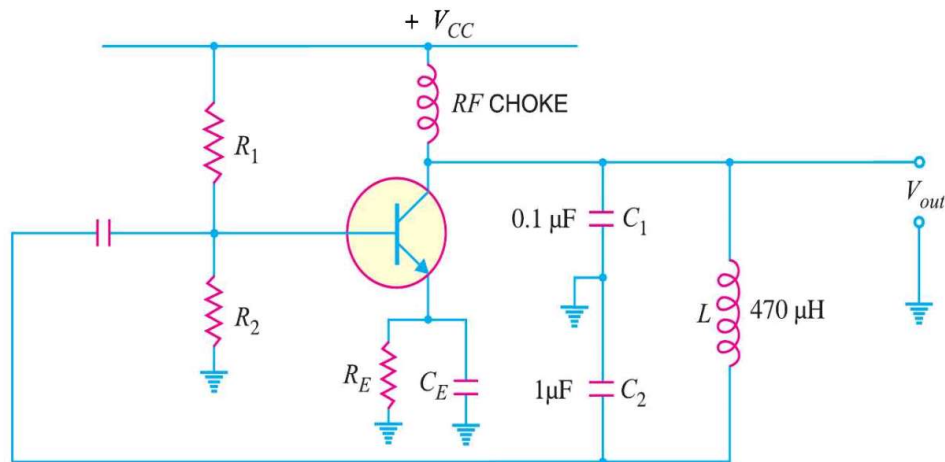

Fig. 14.24
1. Figure 14.24 shows the Colpitt's oscillator. Determine the (i) operating frequency and (ii) feedback fraction. [(i) 24.5 kHz (ii) 0.1]
3. For the Colpitt's oscillator shown in Fig. 14.24,  $C_1 = 750 \text{ pF}$ ,  $C_2 = 2500 \text{ pF}$  and  $L = 40 \mu\text{H}$ . Determine (i) the operating frequency and (ii) feedback fraction. [(i) 1050 kHz (ii) 0.3]